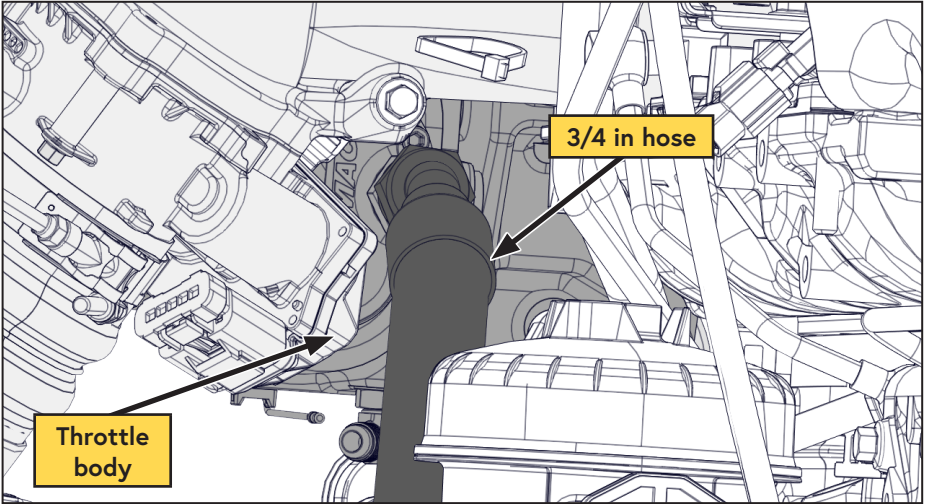

Figure 18 — Discharge hose orientation
- Install the 45° fitting on the 3/4 in discharge hose to the matching fitting on the rear of the compressor. Position the hose and the fitting to ensure it will not come in contact with the throttle body, engine or other vehicle components (Figure 18).